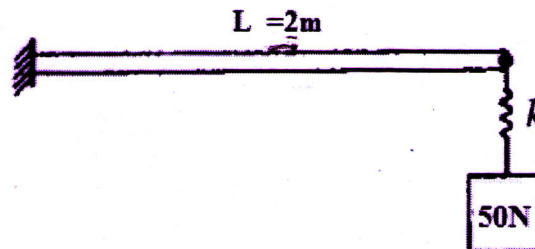

Fig.9
- 20 a) Explain logarithmic decrement. Derive the equation to determine logarithmic decrement. (6)
- b) Determine the natural frequency of the system shown in Fig.9 consisting of a weight of 50N attached to a cantilever through a coil spring, $K=20\text{N/m}$. The cantilever cross section is 200mm x 300mm, young's modulus of elasticity $E=2.5 \times 10^4 \text{MPa}$. (8)